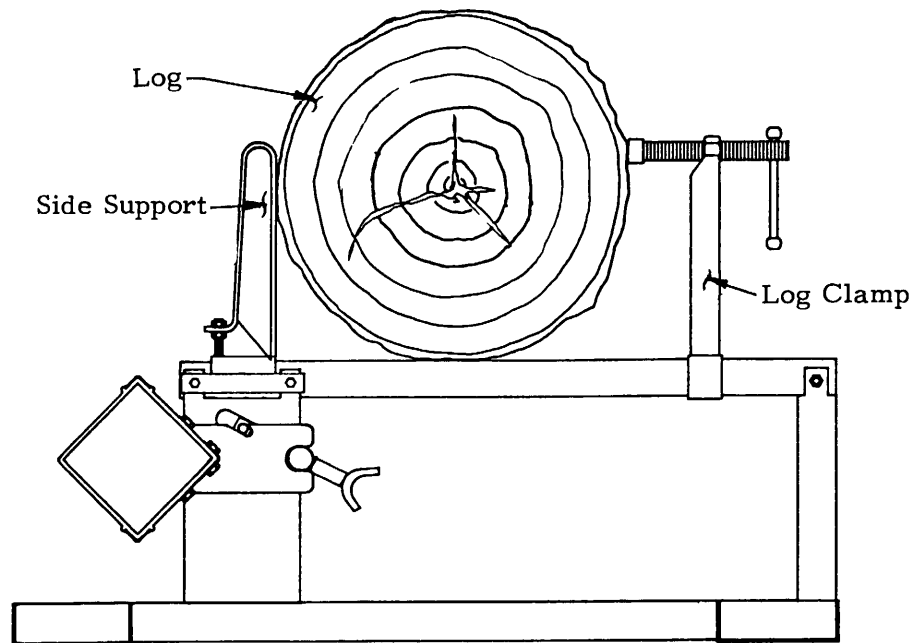

FIGURE 3
15. Secure log to desired angular position by clamping it in place with one or both of the clamping dogs located on the log decks. (See Figure 3.) The clamping dogs are typically required only when the log is resting on a rounded portion.